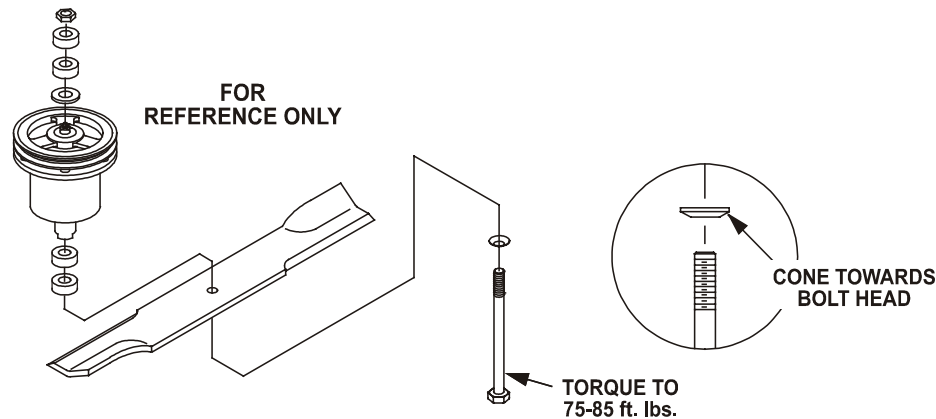

FIG. 14
- g) Re-install the blades (if they were removed) and torque blade bolts to 75-85 ft/lbs. Be sure the spring disc washer cone is installed toward the bolt head (See Figure 14).